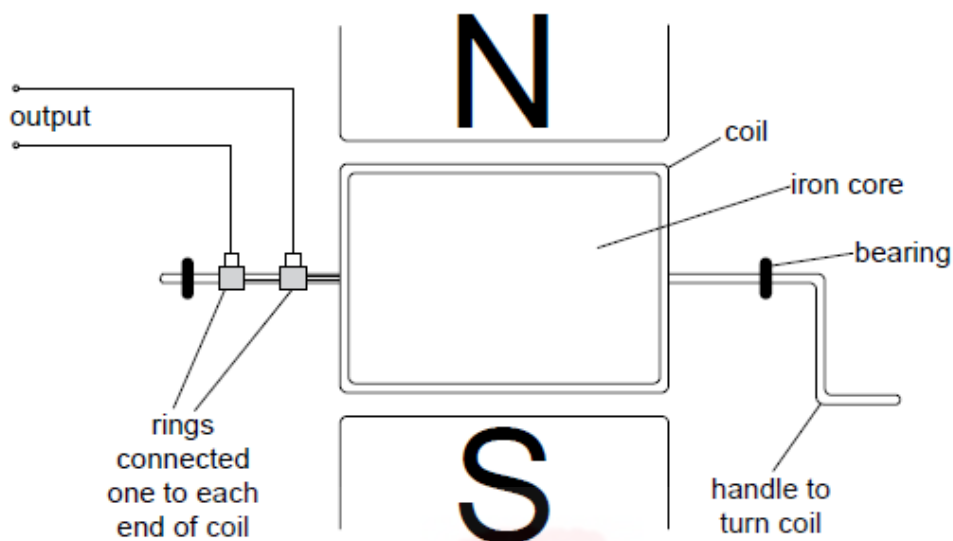

Fig. 8.1
- 8 Fig. 8.1 shows the outline of an a.c. generator. The peak output voltage of the generator is 6.0 V and the output has a frequency of 10 Hz.
(b) The generator shown in Fig. 8.1 works by electromagnetic induction.